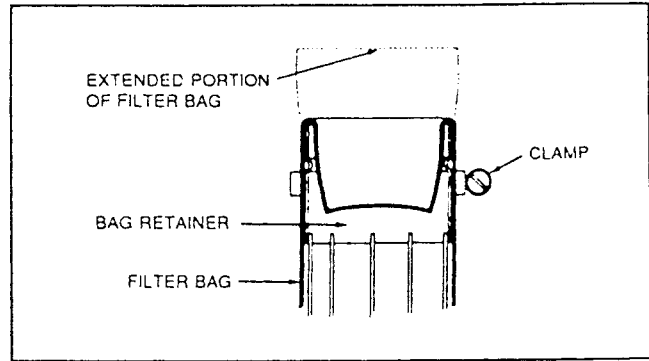

Figure 2
2. Tuck the overextended portion of the filter media inside the retainer sleeve. (Figure 2).